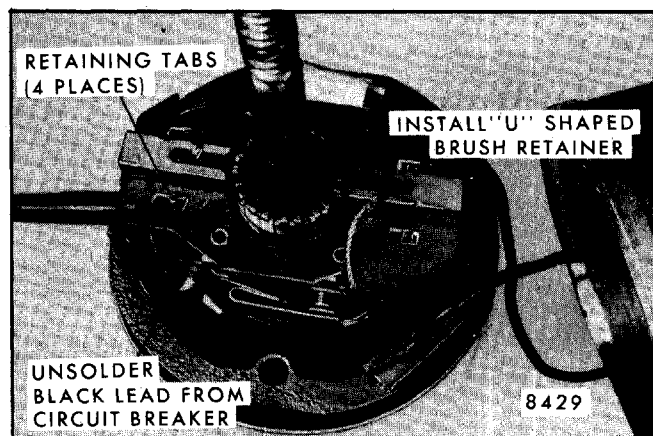

Fig. 2-99-Brushes and Brush Plate
4. Carefully note the routing, then unsolder the black lead from circuit breaker (refer to Fig. 2-99).
5. Straighten out the four tabs that secure the brush plate to the field coil bracket (Fig. 2-99).
6. Install "U" shaped brush retainer clip over brush holder that has brush lead attached to circuit breaker (Fig. 2-99).
holder; then position the brush plate assembly on the mounting tabs in the position shown in Figure 2-99.